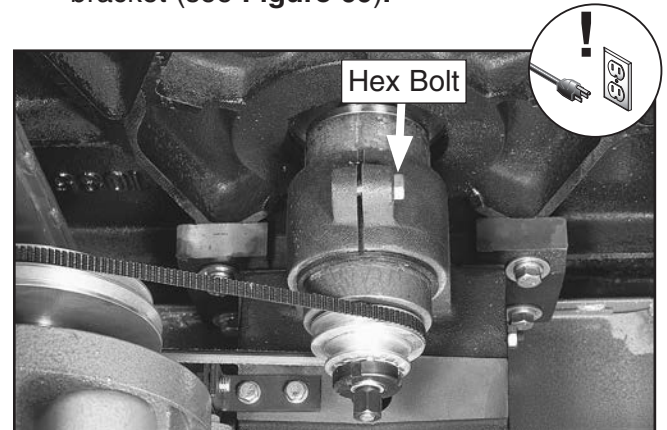

Figure 69. Bolt on spindle slide.
4. Loosen the hex bolt on the spindle cartridge bracket (see **Figure 69**).